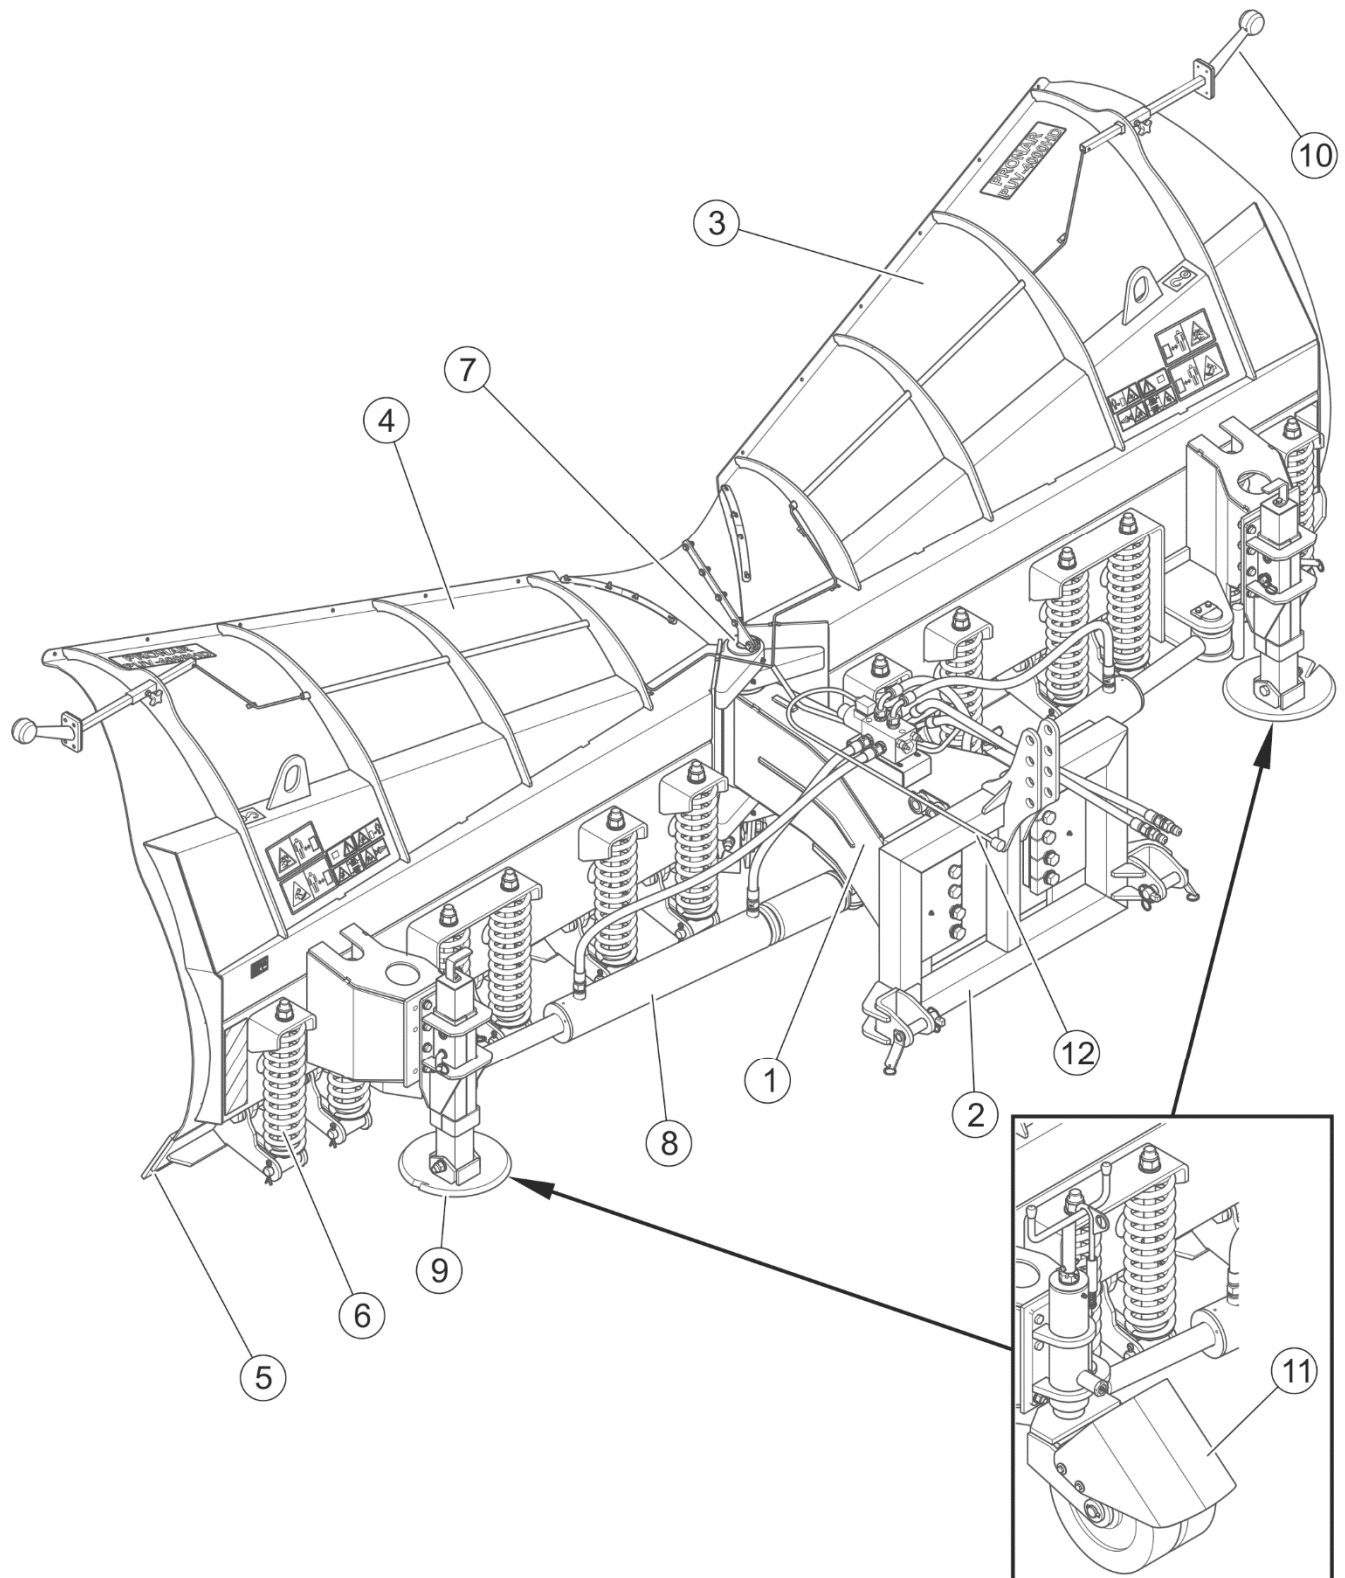

FIGURE 3.2 General design of the snow plough
(1) - frame; (2) - linkage; (3) - right wing; (4) - left wing; (5) - swinging collecting strips; (6) - spring; (7) - main pin; (8) - hydraulic system; (9) - slides; (10) - clearance lamp,
(11) - wheels (option), (12) - electrical system
PUV-3600HD/PUV-4000HD snow plough (FIGURE 3.2) consists of frame (1) to which right (3) and left (4) wings are connected by means of main pin (7). The snow plough is hitched to a carrying vehicle using a suitable linkage system (2). Rubber or metal collecting strips (5) with shock absorbing springs (6) are able to swing backwards when an obstacle is encountered. The snow plough's functions are managed by means of hydraulic system (8). Depending on the its version, the snow plough can be equipped with wheels (11) and other linkage systems (2) for hitching the snow plough to a wide range of carrying vehicles.